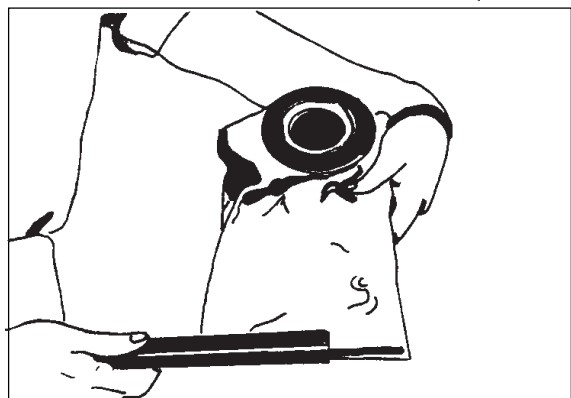

Figure 4
3. Slide the clamp off the filter bag. See figure 4.